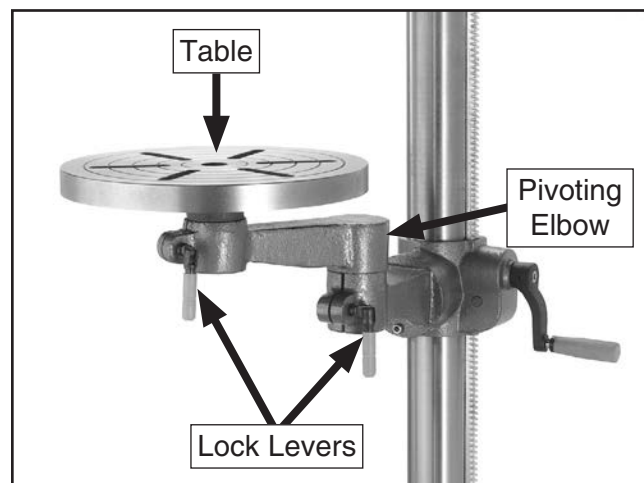

Figure 31. Adjusting distance from column.
1. Loosen the lock lever located under the table (see **Figure 31**). Rotate the table the desired amount.
1. Loosen the lock lever located at the pivoting elbow of the table support (see **Figure 31**).